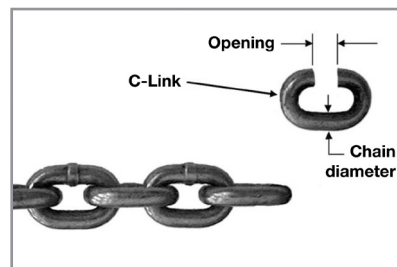

Figure 12
2. Cut the weld from the link leaving an opening approximately 1.25 times the diameter of the link material. See Figure 12.